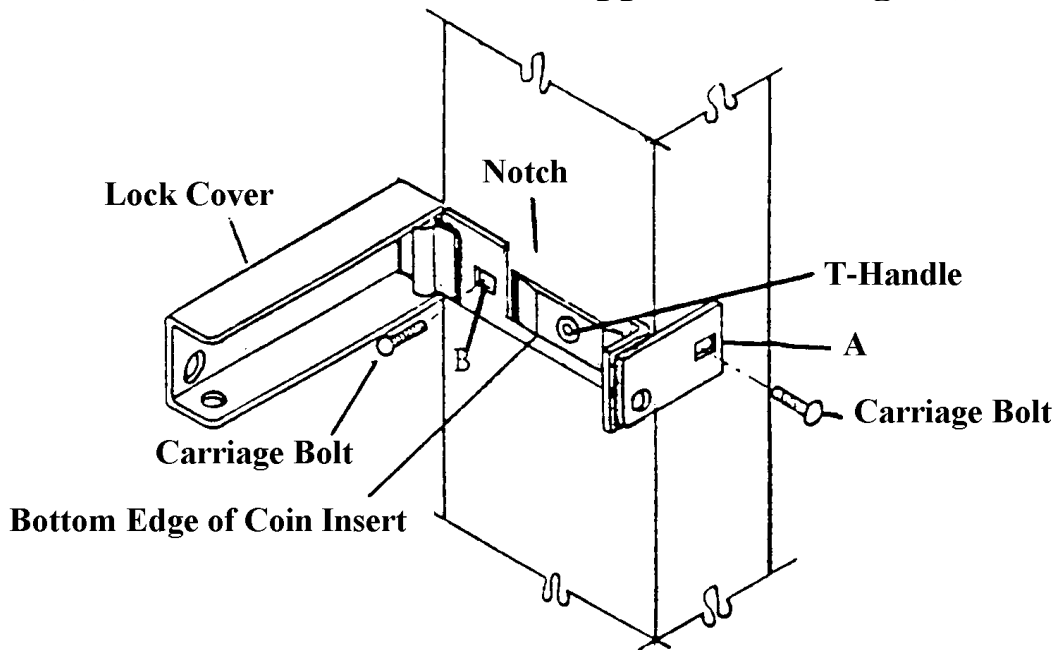

FIGURE 8
1. Open lock cover and place in position as shown in figure 8.
5. Drill two (2) 5/16" holes in the locations marked in step 3.